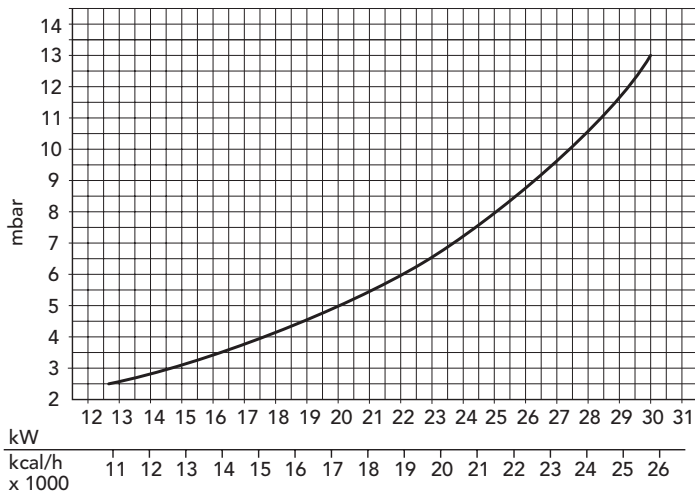

Fig. 4
**N.B. - The gas pressures at the burner and gas flows during the central heating phase given in the table refer to nominal boiler output. To reduce this output (where necessary), gas pressure must be reduced until the required output level is reached (see figures 4 and 5).**
To adjust boiler heat input (thus also regulating heat output to the central heating water) simply adjust the main burner via the electronic control board (fig. 4, 5 and see paragraph 5.04 page 24).